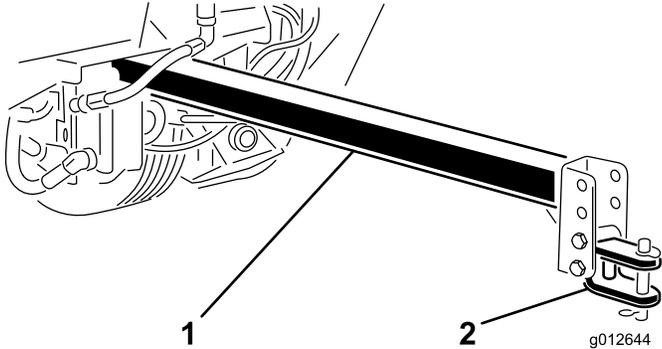
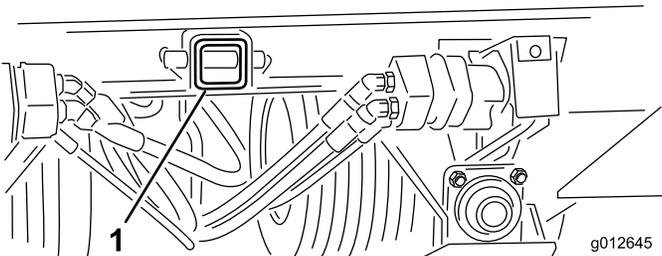

Figure 3
Figure 4
Install tongue into topdresser receiving tube and secure each end with a clevis pin and (2) lynch pins (Figure 3 & Figure 4).